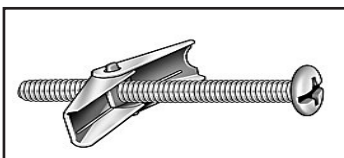

Figure 4 3/16 Toggle-Bolt Anchor
- For each of the marked mounting point locations, determine which points align with a structural framing member. A minimum of two (2) locations must be secured into a framing member.
- For every mounting hole that does not align with a structural framing member, a wall board toggle-bolt anchor must be used. See Figure 4.